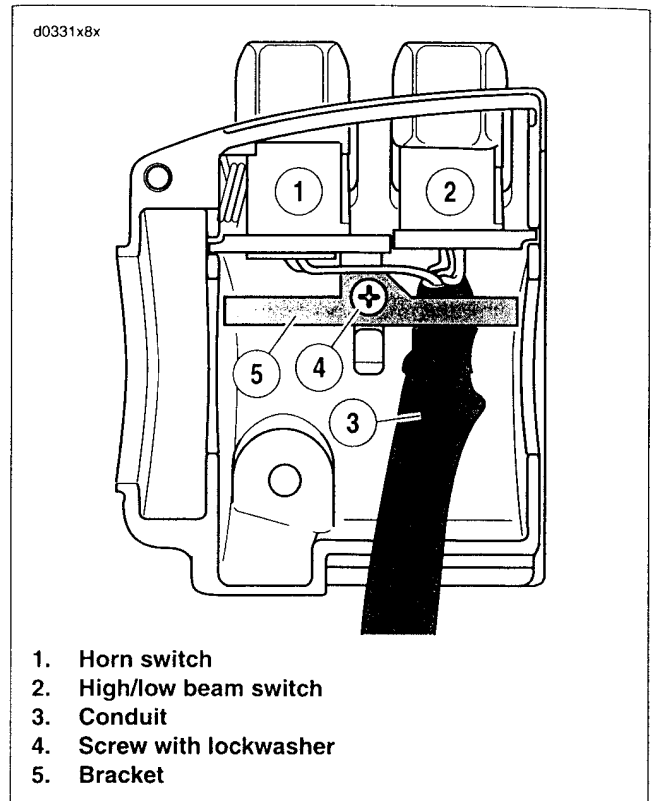
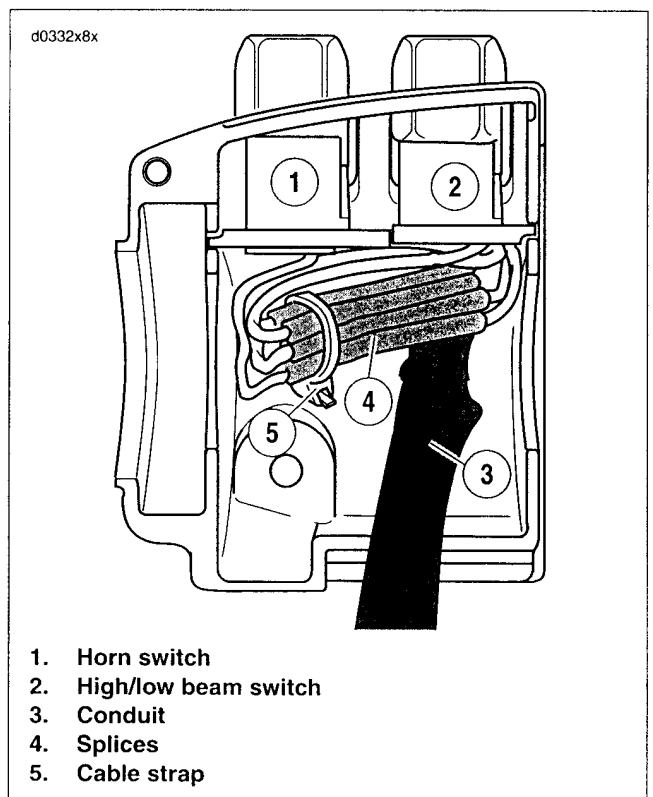

Figure 8-86. Upper Housing Without Splices
Figure 8-87. Upper Housing With Splices
1. See Figure 8-86. From inside the switch housing, remove the screw with lockwasher (4) to release the bracket (5). Remove bracket and switch assembly from the housing.
2. Move cable conduit (3) from beneath wing of bracket. Cut wires 0.25 in. (6.4 mm) from old switches (1, 2). Discard old switch and bracket assembly.
3. Slide conduit forward over cut ends of switch wires and cut off 0.5 in. (12.7 mm) of conduit (3) material. Push conduit back to access switch wires.
4. Separate the **new** horn switch (1) and high/low beam switch (2) wires into two bundles.
6. Loop switch wires so that spliced lengths are positioned as shown in Figure 8-87. Route wires downstream of splices beneath wing on high/low beam switch side of bracket as seen in Figure 8-86.
7. See Figure 8-87. Install a **new** 7.0 in. (177.8 mm) cable strap (5) beneath wing on horn switch side (1) of bracket and capture wire splices (4).
9. See Figure 8-86. Install screw and lockwasher (4) to secure bracket (5) inside housing. Verify that wing on high/low switch (2) side of bracket captures edge of conduit (3) as shown.